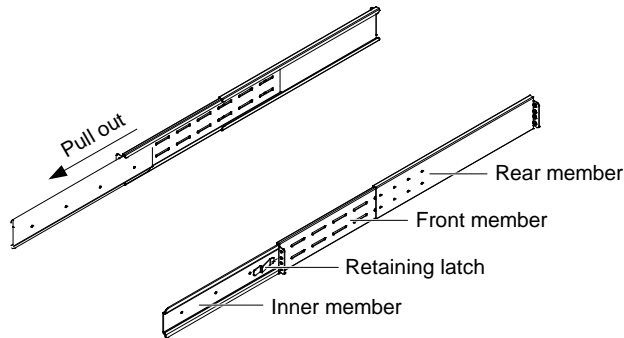

Figure 5-4 Removing inner member of each bracket assembly
2. Remove inner member of each bracket assembly shown in Figure 5-4 by extending it to its outermost position, depressing the retaining latch and then pulling the inner member out of the bracket assembly.